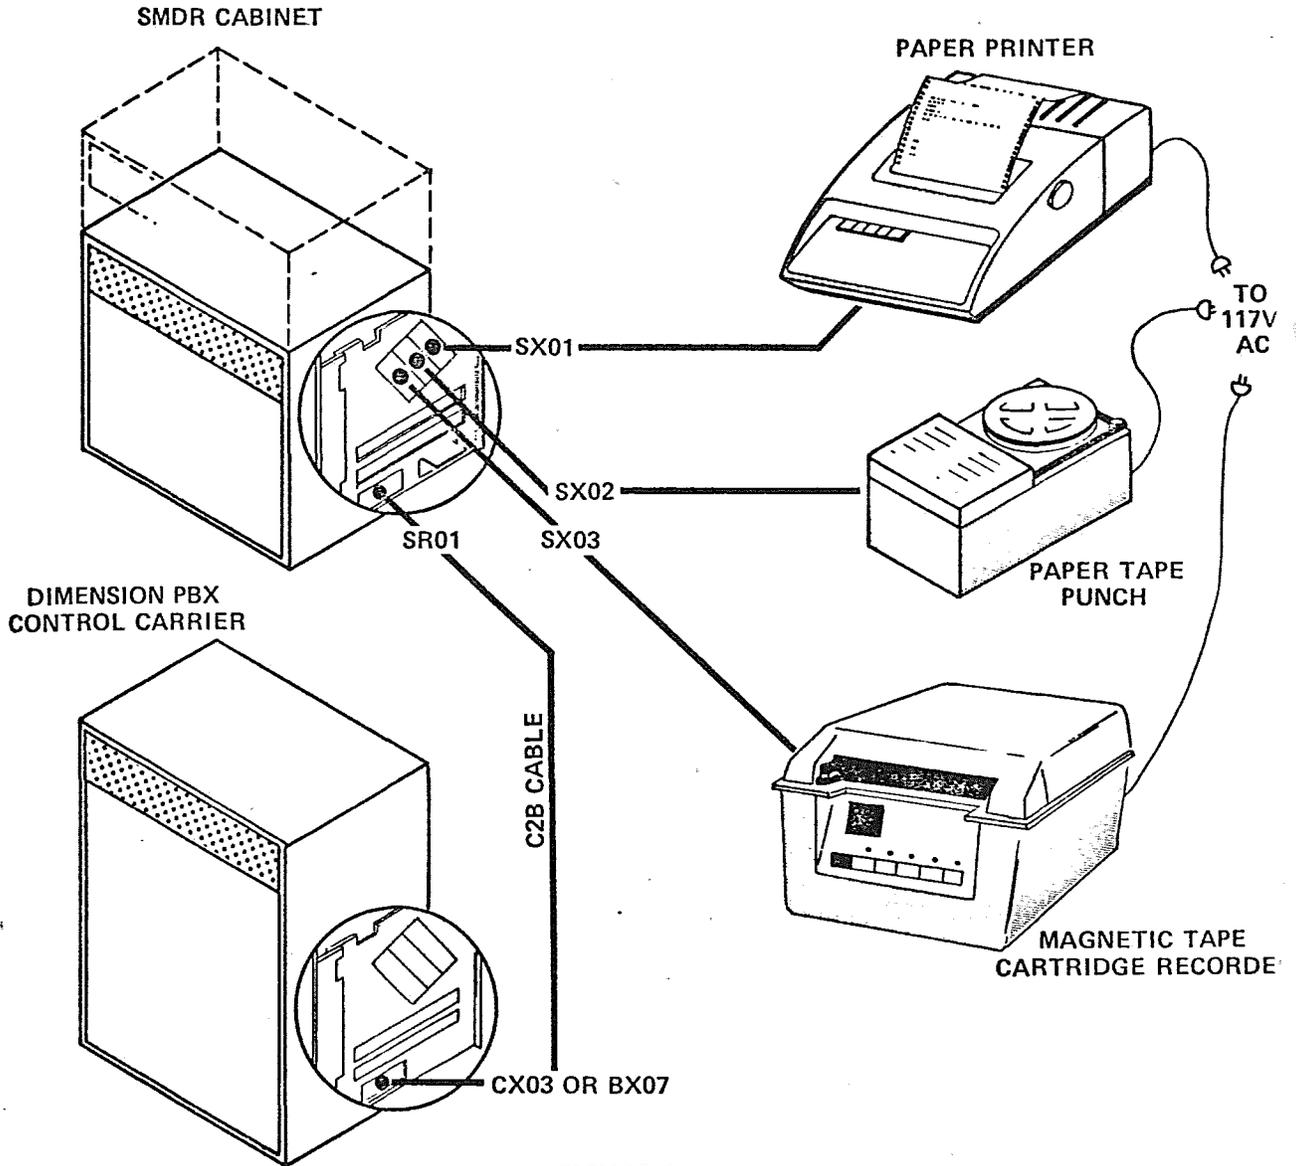

FIGURE 1
- 4.1 Connect a C2B cable (200 feet or less) from connector CX03 (Dimension[®] small) or BX07 (Dimension[®] large) on the right side of the control carrier to Connector SR01 on the right side of the SMDR carrier (see figure 1).
- 5.2 Connect the printer data cord to connector SX01 on the right side of the SMDR carrier assembly (see figure 1).
- 6.2 Connect the Paper Tape Punch data cord to connector SX02 on the right side of the SMDR carrier assembly (see figure 1).
- 7.2 Connect the Cartridge Recorder data cord to connector SX03 on the right side of the SMDR carrier assembly (see figure 1).